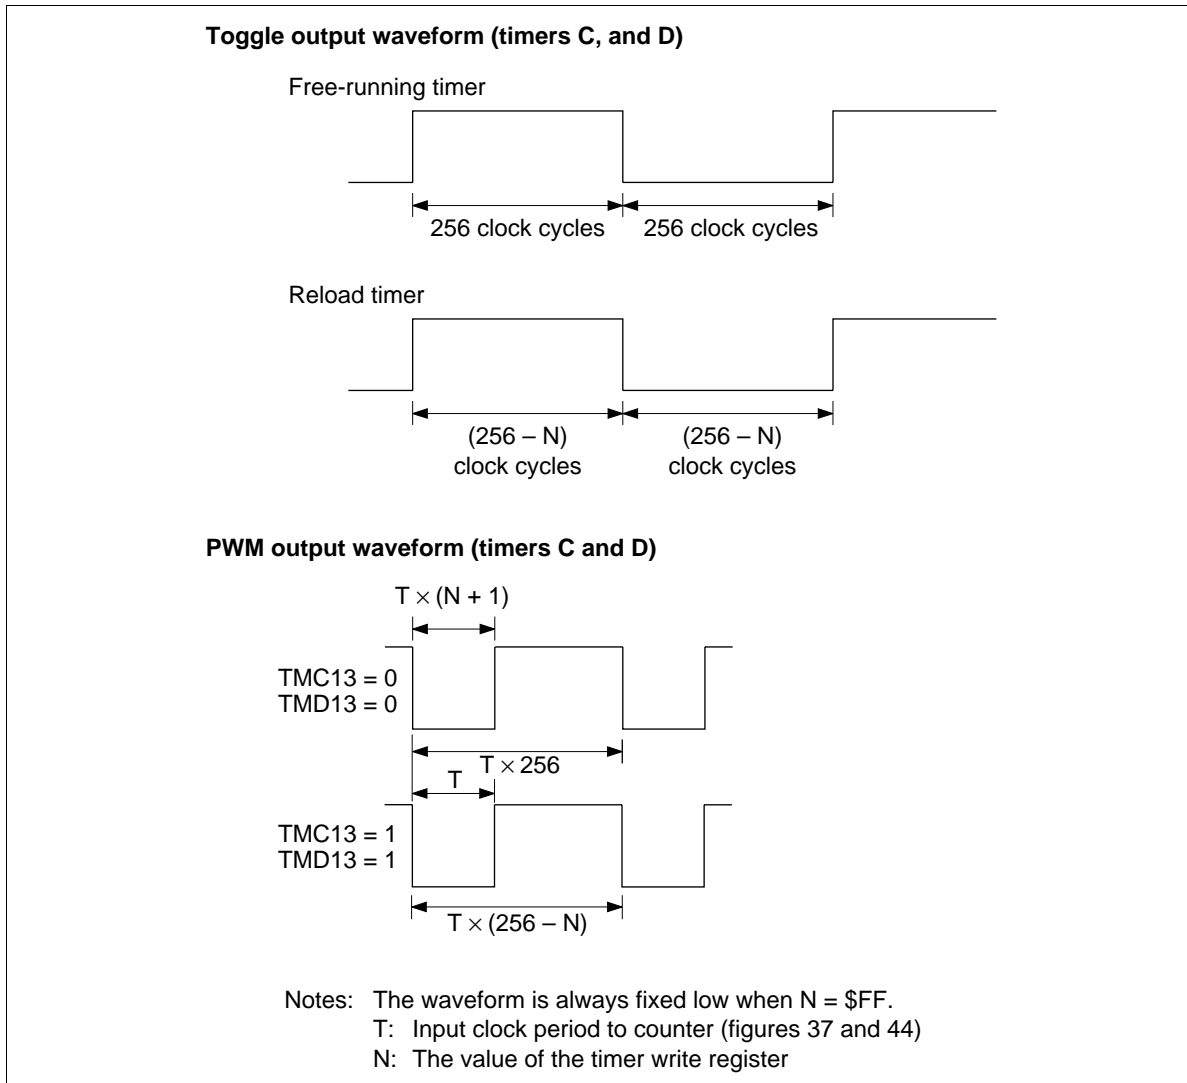

Figure 36 Timer Output Waveform
- Toggle output: When toggle output mode is selected, the output level is inverted if a clock is input after timer C has reached \$FF. By using this function and the reload timer function, clock signals can be output at a required frequency for the buzzer. The output waveform is shown in figure 36.
- PWM output: When PWM output mode is selected, timer C provides the variable-duty pulse output function. The output waveform differs depending on the contents of timer mode register C1 (TMC1: \$00D) and timer write register C (TWCL: \$00E, TWCU: \$00F). The output waveform is shown in figure 36.